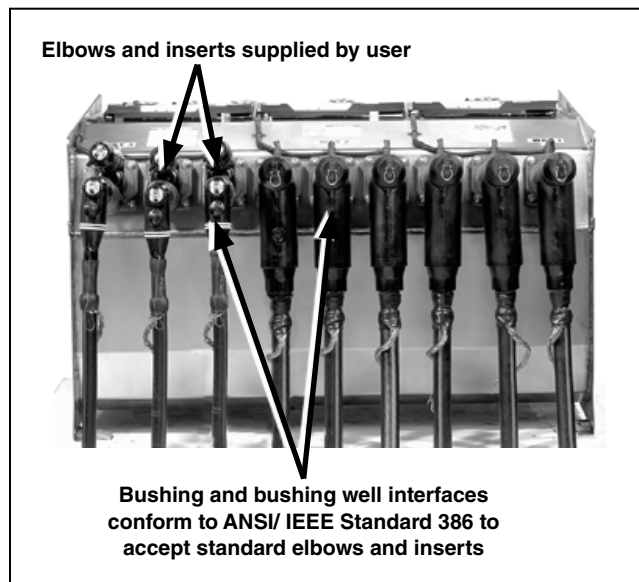

Figure 15. A Vista switchgear tank shown with user-supplied cables and elbows (manual unit shown for illustration purposes).
- STEP 2.** Terminate the cables with elbows following the elbow manufacturer's instructions. See Figure 15.